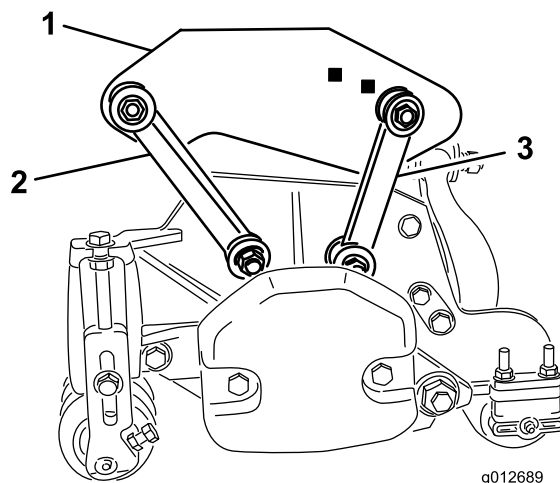

Figure 19
- Secure the front mounting links to the carrier frame holes with a bolt (3/8 x 2-1/4 inch), 2 flat washers, and a locknut, as shown in Figure 19. Position a washer on each side of the link when mounting. Torque the fasteners to 42 N·m (31 ft-lb).
- Secure the rear mounting links to the rear carrier frame holes with a bolt (3/8 x 2-1/4 inch), 2 flat washers, and a locknut, as shown in Figure 19. Position a washer on each side of the link when mounting. Torque the fasteners to 42 N·m (31 ft-lb).